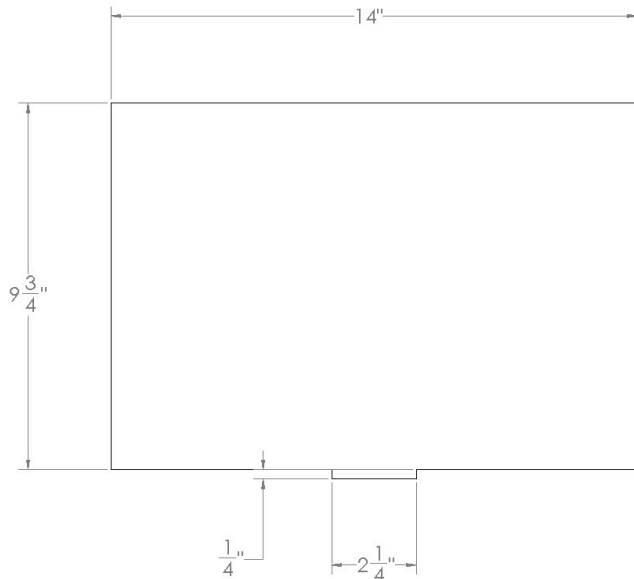

Figure 12
1. Cut out the wall opening to the dimensions shown in Figure 12.